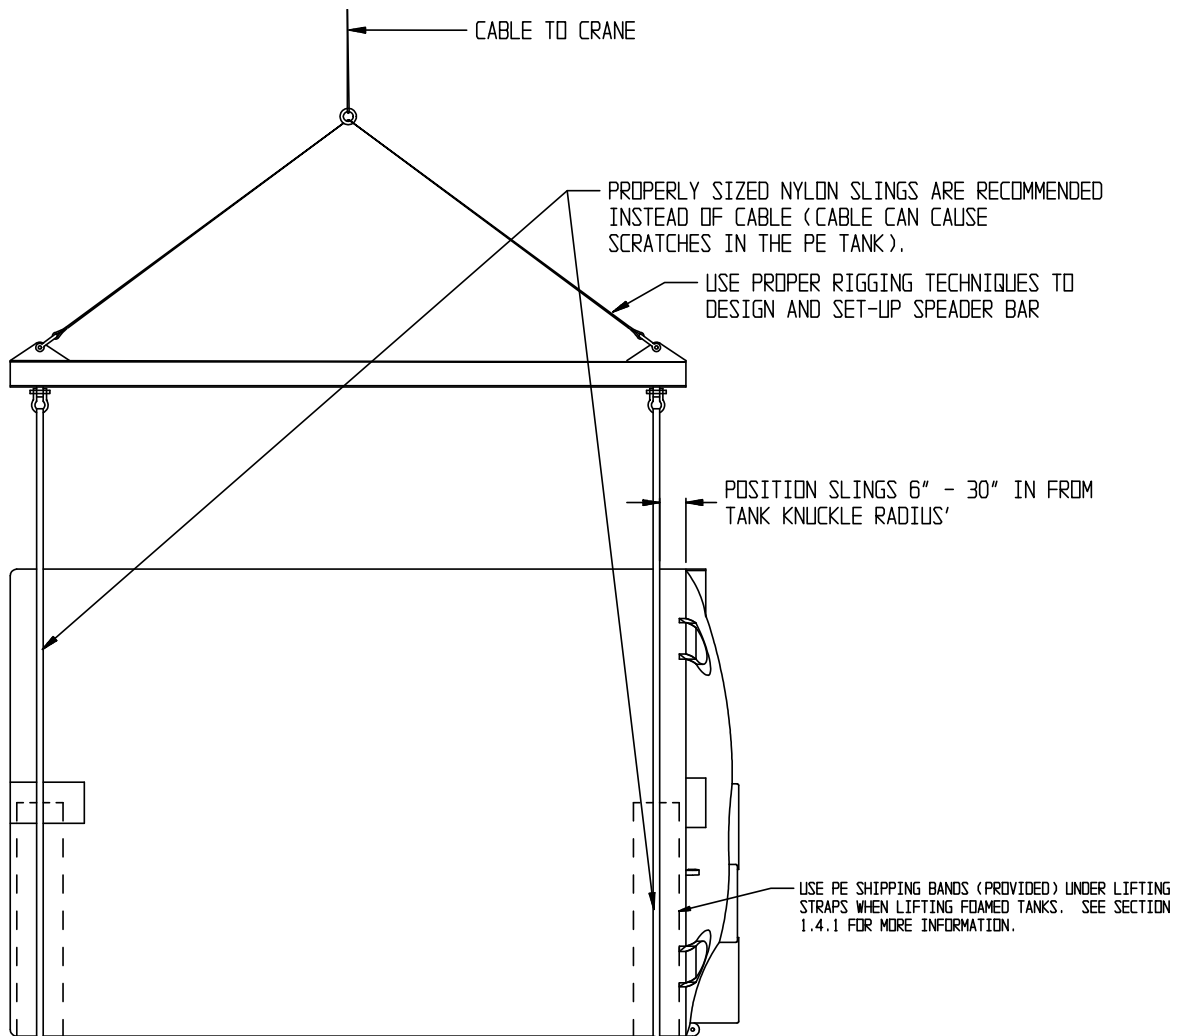

Figure 4.1
4.3.2 Tanks should be moved, loaded, and unloaded in a horizontal position with a forklift with protected or rounded fork extensions, or with a crane with a spreader bar and 2 slings of appropriate size positioned on each tank as shown in Figure 4.1. NEVER drop a tank off of a truck onto the ground since this may damage the tank and void the tank warranty.